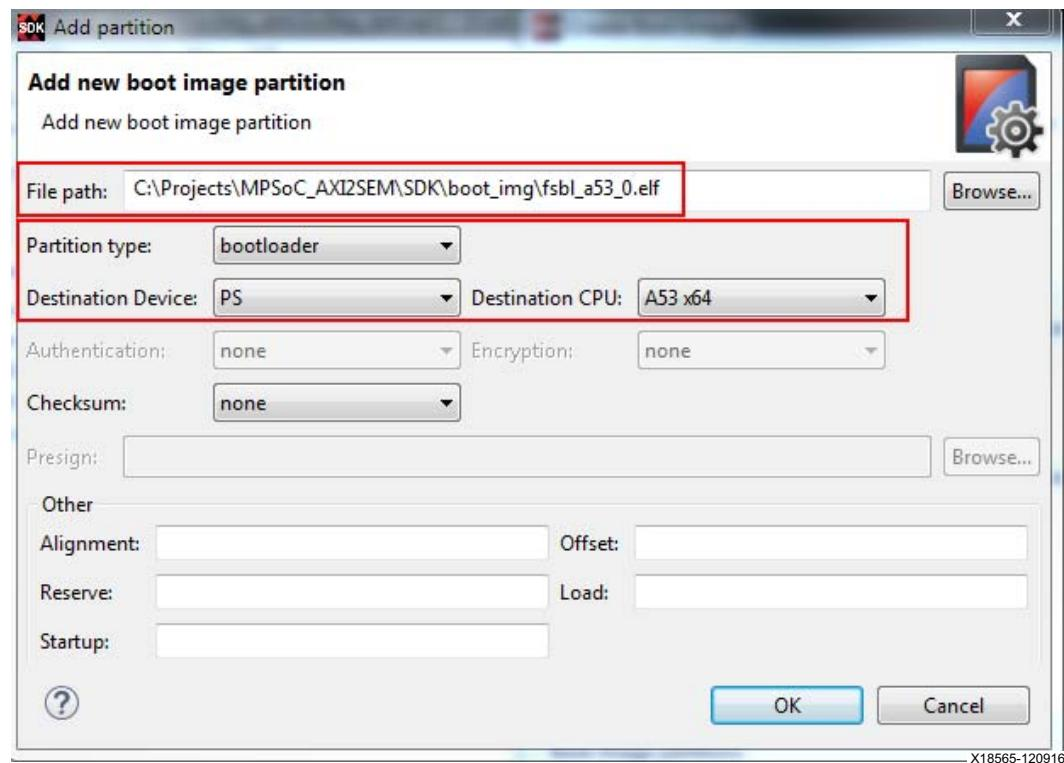

Figure 17: FSBL Boot Partition
- c. Verify the Partition Type is **bootloader**, the Destination Device is **PS**, and the Destination CPU is **A53 x64**. See Figure 17.